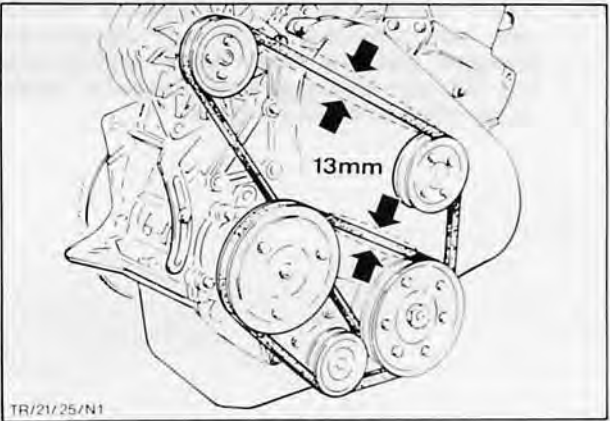

Fig. 95. Adjust alternator and vacuum pump V-belt tension
76. Adjust alternator and vacuum belt tension to achieve 13 mm (0,5 in) free movement mid-way between alternator and pump pulleys, Fig. 95.